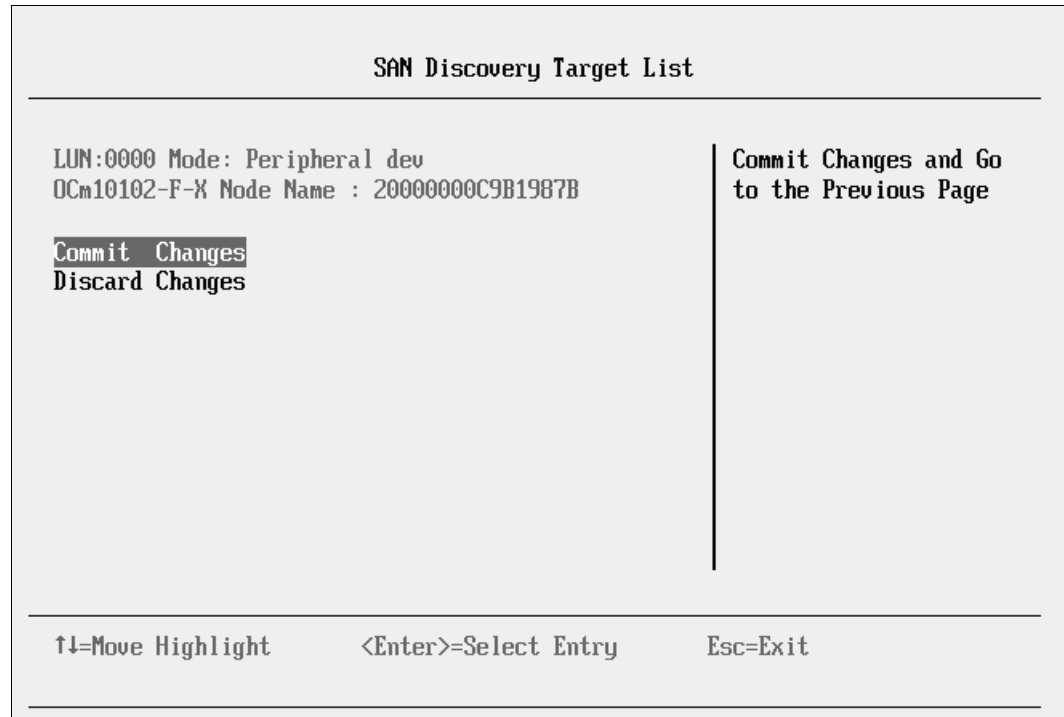

Figure 9-123 SAN Discovery Target List panel
17. In the SAN Discovery Target List (Figure 9-123), select **Commit Changes**.